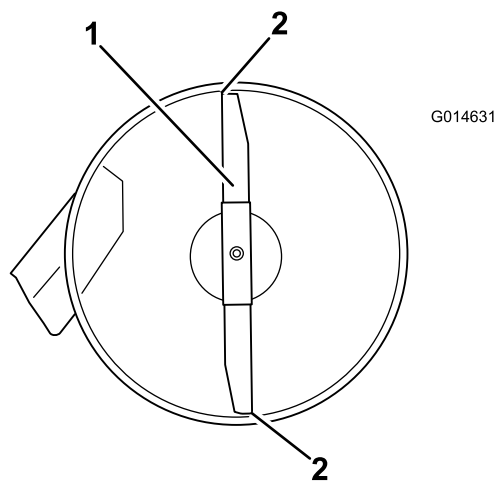

Figure 52
4. Carefully rotate the blades so they are facing front to rear (Figure 52).
5. Measure from the tip of the front blade to the flat surface and the tip of the rear blade to the flat surface (Figure 52). If the front blade tip is not 1/16-5/16 inch (1.6-7.9 mm) lower than the rear blade tip, adjust the front locknut.
is 1/16-5/16 inch (1.6-7.9 mm) lower than the rear blade tip (Figure 52).